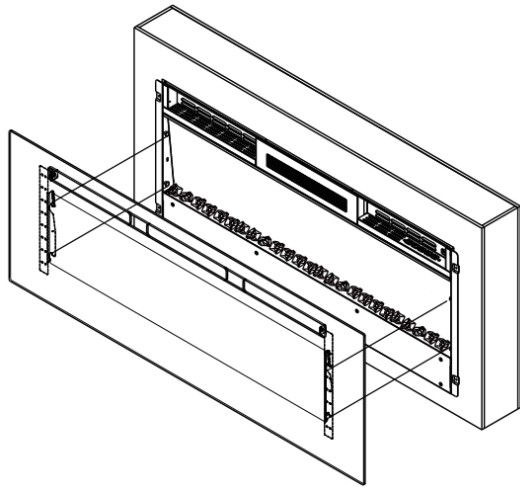

Fig.3
- Remove the two pcs of white screws on both sides from the appliance see Fig.3
- Place the front glass surround over the front of the fire aligning the slots in the bracket at each side of the glass panel with the lugs on the sides of the fire; See Fig.3